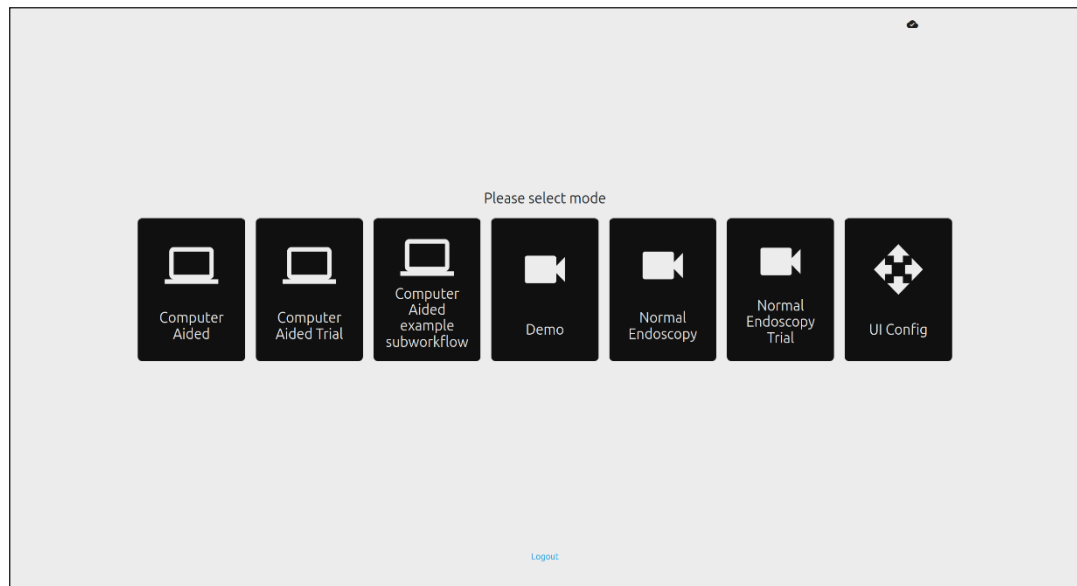
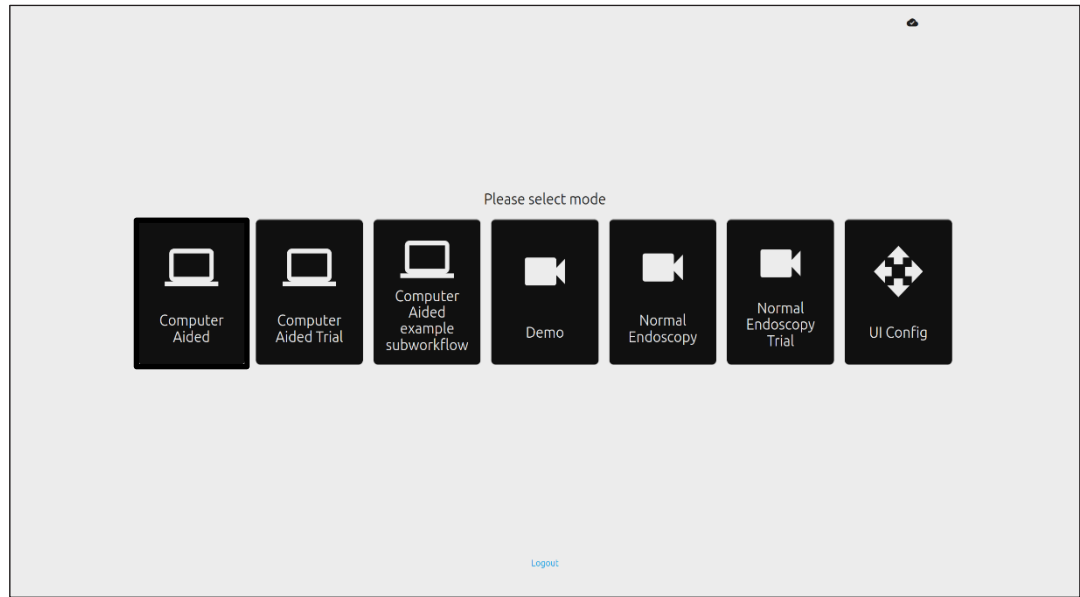

Figure 9: Workflow selection
Figure 10: Workflow Selected
1. Clinical trial modes can be configured for certain users. Such modes can contain additional features to the above. The clinical trial modes cannot be accessed by a user not involved in a clinical trial. If clinical trial mode is configured, the following page is shown after login and before the greeter page (options for modes might vary). The user can cycle and select a clinical trial mode using the pedal. A short press will move the selected mode (larger and lighter box) (Figure 9). Holding down the pedal for 2 seconds then releasing it will select the workflow. A loading box around the selected mode will indicate when the pedal can be released (Figure 10).